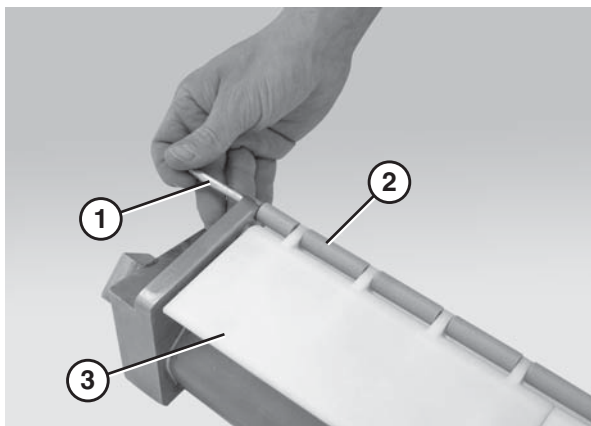

Figure 67
5. Remove the nose bar shaft (Figure 67, item 1), the rollers (Figure 67, item 2) and the roller mounts (Figure 67, item 3).